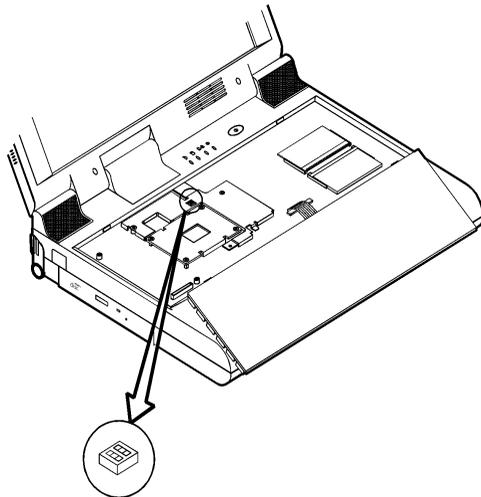

Figure 2-3
- 4** Locate the DIP switches and configure it according to the above list (Figure 2-3).